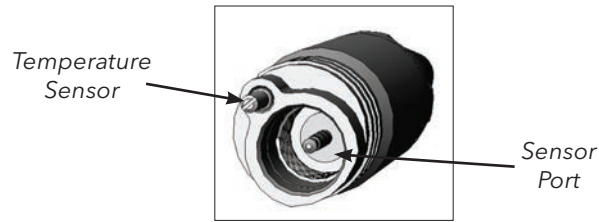

Figure 3.
“Bulkhead” refers to the sensor-end of the probe/cable assembly where an ion selective electrode (ISE - either pH or ORP) is installed (figure 3). The temperature sensor is located next to the sensor port on the bulkhead and is not replaceable.
1. Locate sensor port on the 60510 cable, see figure 3.